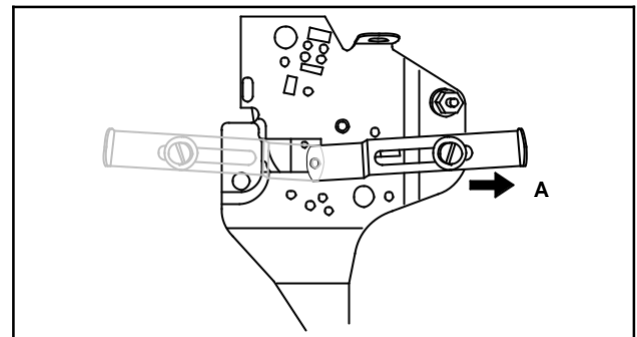

Fig. 67
Adjust Manual Friction as shown (A), to increase speed, Fig. 67.